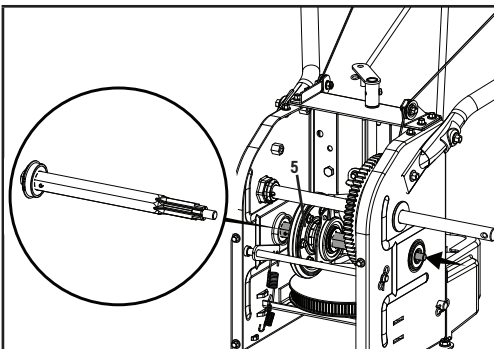

Figure 47
- Carefully position the hex shaft downward and to the left before carefully sliding the friction disc assembly (5) off the shaft (Fig. 47).